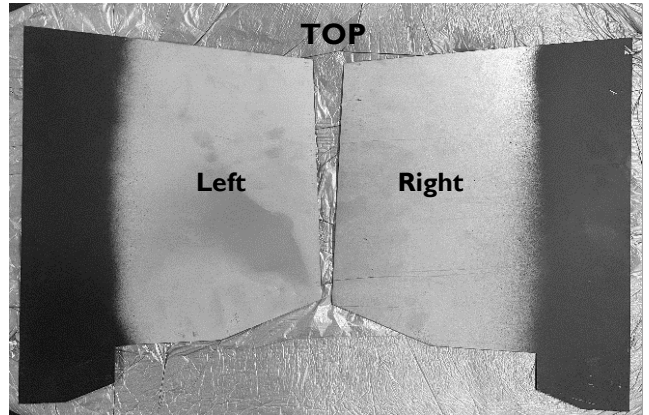

Figure 9.4, Side Backer Plates
2. Install side refractory by sliding top of panel up and into position. Secure with panel clips previously bent (Figure 9.4).